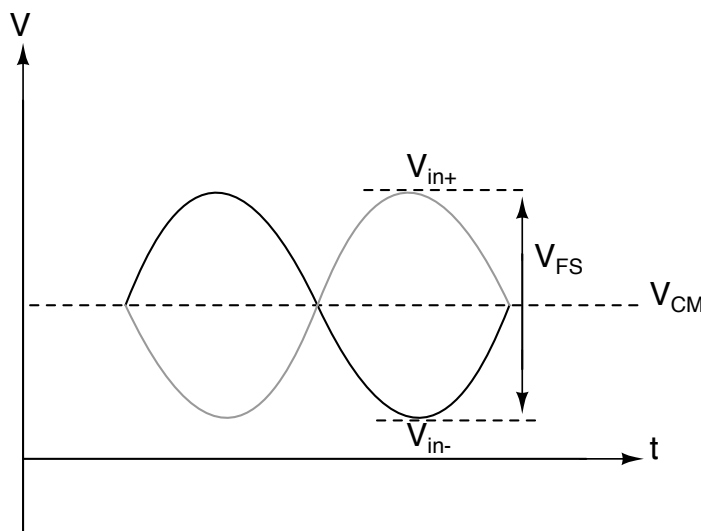

Figure 3: Full Scale Voltage and Common Mode Voltage Definition
- Choose a reasonable value for full-scale voltage ( $V_{FS}$ ) and common mode voltage ( $V_{CM}$ ) for a supply voltage of  $V_{DD}$  shown in Fig. 3 and calculate the size of least significant bit ( $V_{LSB}$ ). What constitutes a reasonable  $V_{FS}$  or  $V_{LSB}$ ?